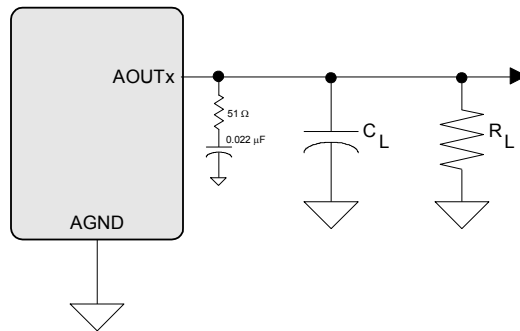

Figure 3. Headphone Output Test Load
10. See Figure 3.  $R_L$  and  $C_L$  reflect the recommended minimum resistance and maximum capacitance required for the internal op-amp's stability and signal integrity. In this circuit topology,  $C_L$  will effectively move the band-limiting pole of the amp in the output stage. Increasing this value beyond the recommended 150 pF can cause the internal op-amp to become unstable.
(Test conditions (unless otherwise specified): Input test signal is a full-scale 997 Hz sine wave; measurement bandwidth is 10 Hz to 20 kHz; Sample Frequency = 48 kHz and 96 kHz; test load  $R_L = 10\text{ k}\Omega$ ,  $C_L = 10\text{ pF}$  for the line output (see Figure 3), and test load  $R_L = 16\ \Omega$ ,  $C_L = 10\text{ pF}$  (see Figure 3) for the headphone output. HP\_GAIN[2:0] = 011.)
Test conditions (unless otherwise specified): Input test signal is a full-scale 997 Hz sine wave; measurement bandwidth is 10 Hz to 20 kHz; Sample Frequency = 48 kHz; test load  $R_L = 10\text{ k}\Omega$ ,  $C_L = 10\text{ pF}$  (see Figure 3).
Test conditions (unless otherwise specified): Input test signal is a full-scale 997 Hz sine wave; measurement bandwidth is 10 Hz to 20 kHz; Sample Frequency = 48 kHz; test load  $R_L = 16 \Omega$ ,  $C_L = 10 \text{ pF}$  (see Figure 3).